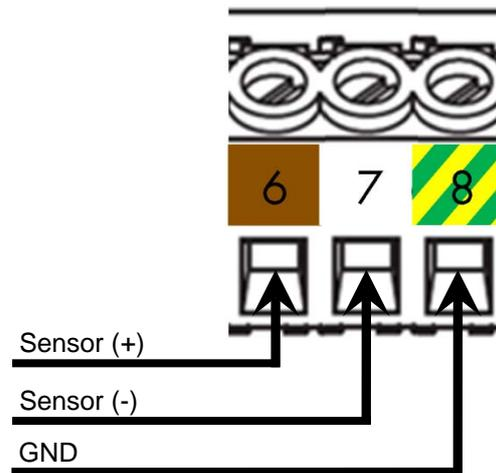

Figure 8: Connections for ULS-02, ULS-06 or other level sensor
4. Install each wire into the terminal block (Figure 8) :